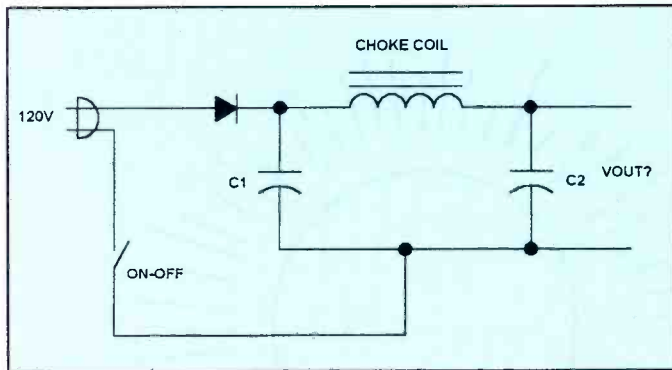

Figure 1. When the switch in this circuit is closed, what will be the dc output voltage of the half-wave rectifier?
2. When the switch is closed, the dc output voltage of the half-wave rectifier in Figure 1 should be about _____.